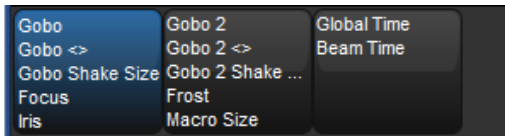

Figure 6.7. The Wheelsets Toolbar for a Studio Spot 575
2. If the selected fixture has more parameters of the selected type than there are wheels, the Wheelsets Toolbar will open; see *Figure 6.7, “The Wheelsets Toolbar for a Studio Spot 575”*. Page through the available parameters by pressing the parameter type key again, or select a button on the toolbar.